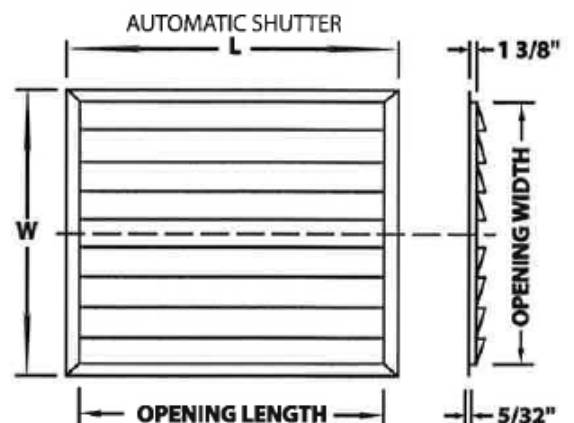

Figure 4
FOR NO JOIST CUT "DO IT YOURSELF" INSTALLATION USING THE SL SERIES SHUTTER LISTED IN THE SPECIFICATIONS. (See Fig. 4)
1. First check the ceiling shutter being used to determine the size of the required ceiling opening. This should be specified by instruction or a template supplied with the shutter. Note that either the CS series shutter or the SL series of Figure 4 may be used for this type of installation.